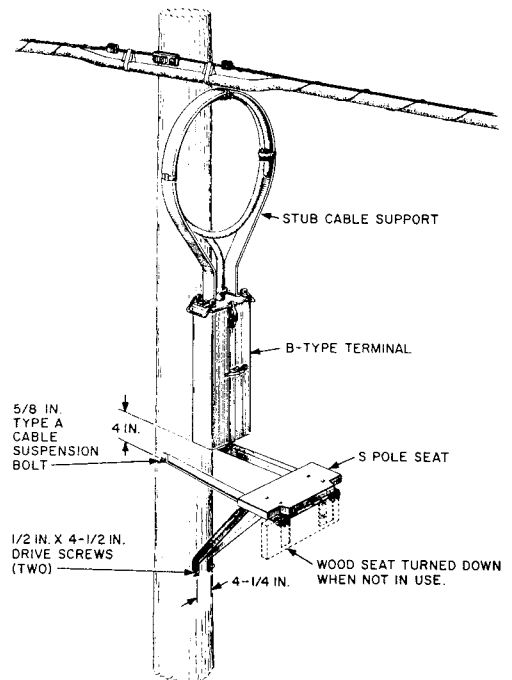

Fig. 5—S Pole Seat
4.01 The superseded S pole seat was used with the shorter B-type cable terminals (100- and 300-pair size) because all binding posts in these terminals are within easy reach of employee in a sitting position. The S pole seat is shown in Fig. 5.